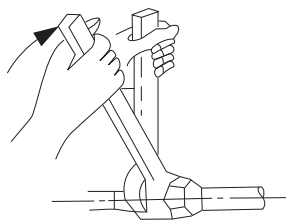

Fig. 10 – Tighten Flare Nut
6. Tighten flare nut and finish installation using two wrenches as shown in Fig. 10.
10. Connect refrigerant piping and drain line outside of indoor unit. Refer to Fig. 10 for proper installation of flare connections. Complete pipe insulation at flare connection then fasten piping and wiring to the wall as required. Completely seal the hole in the wall.